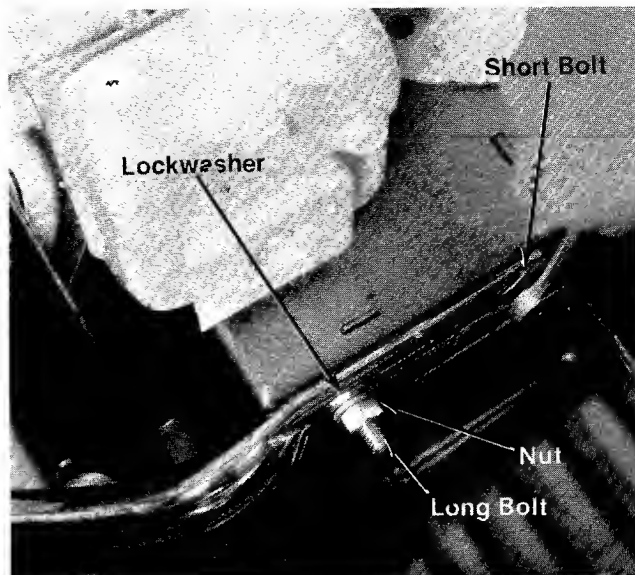

FIGURE 2
2. Using the two 5/16" hex head bolts, attach the right side of the handle assembly to the right side of the frame. (See figure 2.)